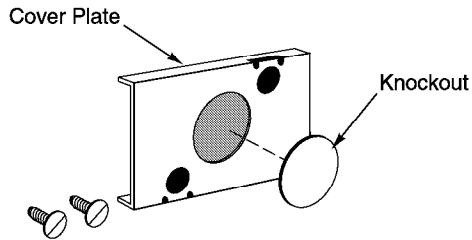
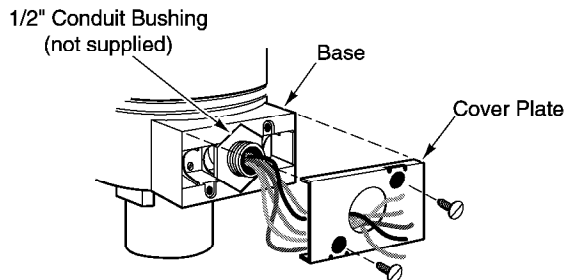
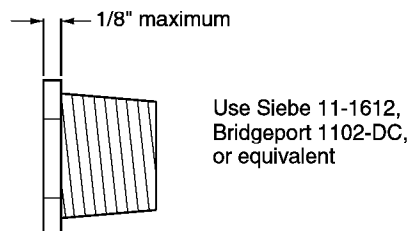

Figure-9 Cover Plate Knockout Removal.
Figure-10 Conduit Bushing and Cover Plate Installation.
Figure-11 1/2" Conduit Bushing.
1. Remove the knockout from the cover plate supplied with the actuator. Refer to Figure-9.
2. Slip the leads through a standard 1/2" conduit bushing (not supplied) and the knockout hole in the cover plate. Refer to Figure-10 and Figure-11.
2. Slip the leads through a standard 1/2" conduit bushing (not supplied) and the knockout hole in the cover plate. Refer to Figure-9 and Figure-10.
As shown in Figure-10, the hole in the cover plate of the actuator conduit housing is sized to accept both British standard M20 (20 mm) conduit connectors and 20 mm-to-PG16 adaptors for use with DIN PG16 connectors. (Follow the steps for installing the conduit box to the actuator.)